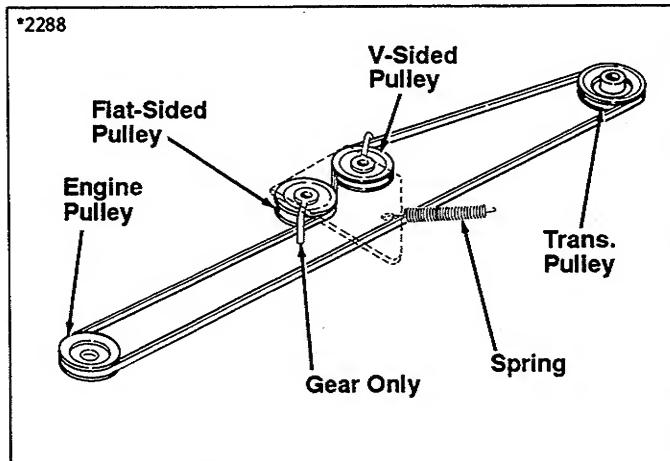

Figure 27. Drive Belt
8. Lock parking brake (hydro models) or clutch pedal (gear models) to position idler pulley bracket. Install new belt to idler pulleys. Make sure belt is properly routed on flat and V-sided pulleys. Refer to figure 27. Adjust belt stops to $1/8$ " clearance from pulleys.